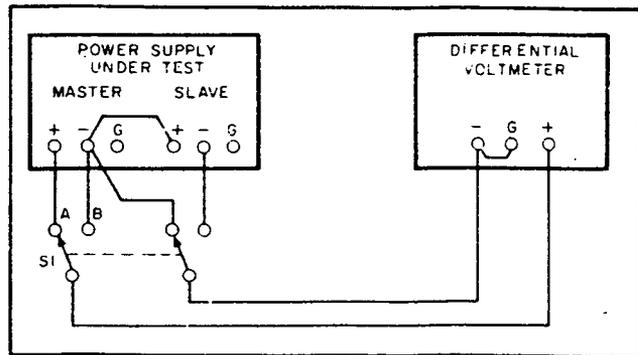

Figure 5-9. Tracking Error Test Setup
5-42 Tracking Error. The tracking error is defined as the difference in percent between the output voltage of the master and slave supplies when the instrument is operated in the tracking mode. The error is measured once for the complete instrument, as opposed to the previous tests in which the test procedure was repeated for both supplies contained in the instrument. The test setup to be used is shown in Figure 5-9. Only the front output terminals should be used for this test; the rear output and sensing terminals cannot be used when the instrument is operated in the tracking mode. In addition, note that the minus output terminal of the master (left) supply must be used as the terminal
a. Connect test setup shown in Figure 5-9.
b. Set front panel mode switch to TRACKING, and connect jumper between minus output terminal of left supply and positive output terminal of right supply as shown on front panel and in Figure 5-9.